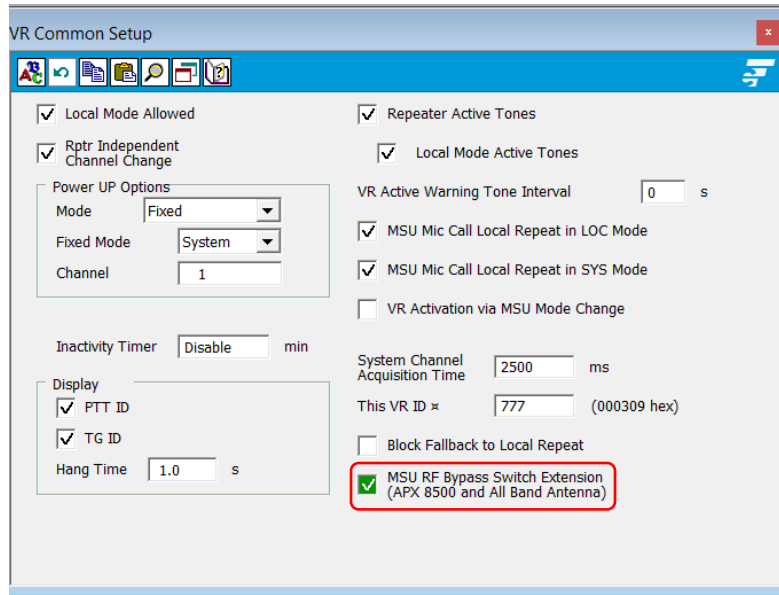

Figure 3: RF Bypass Switch Extension Configuration
- **VR Common Setup**→ **MSU RF Bypass Switch Extension (APX 8500 and All Band Antenna)**= checked (enabled) (See: **Figure 3: RF Bypass Switch Extension Configuration**)